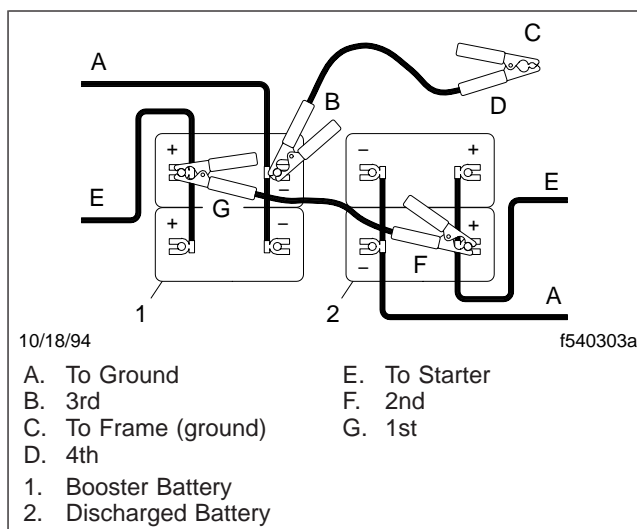

Fig. 13.5, Jumper Connections
3. Connect an end of one jumper cable to the positive terminal of the booster battery (or jump-start post if equipped), and connect the other end of the cable to the positive terminal of the discharged battery (or jump-start post if equipped). See Fig. 13.5.